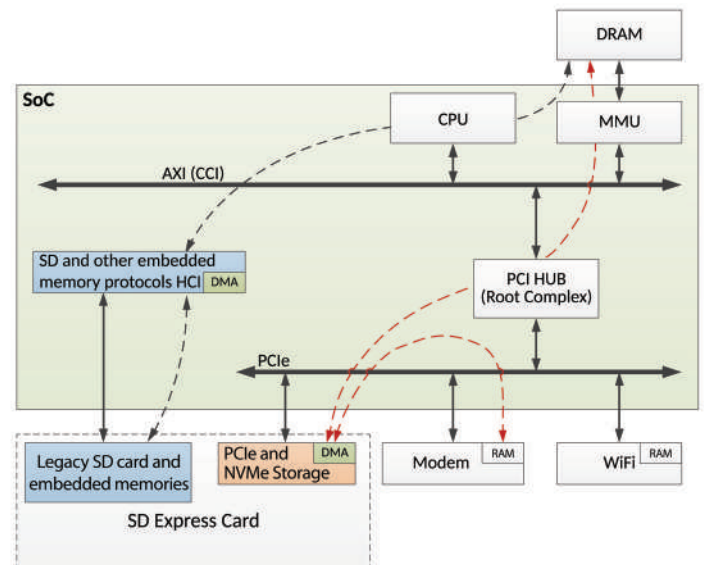

Figure 6 – Bus mastering of PCIe
- Bus mastering (first-party DMA) is natively supported in PCIe, see Figure 6.
- For example, a modem can send IO requests directly to the storage without any “help” from the Application Processor (AP):